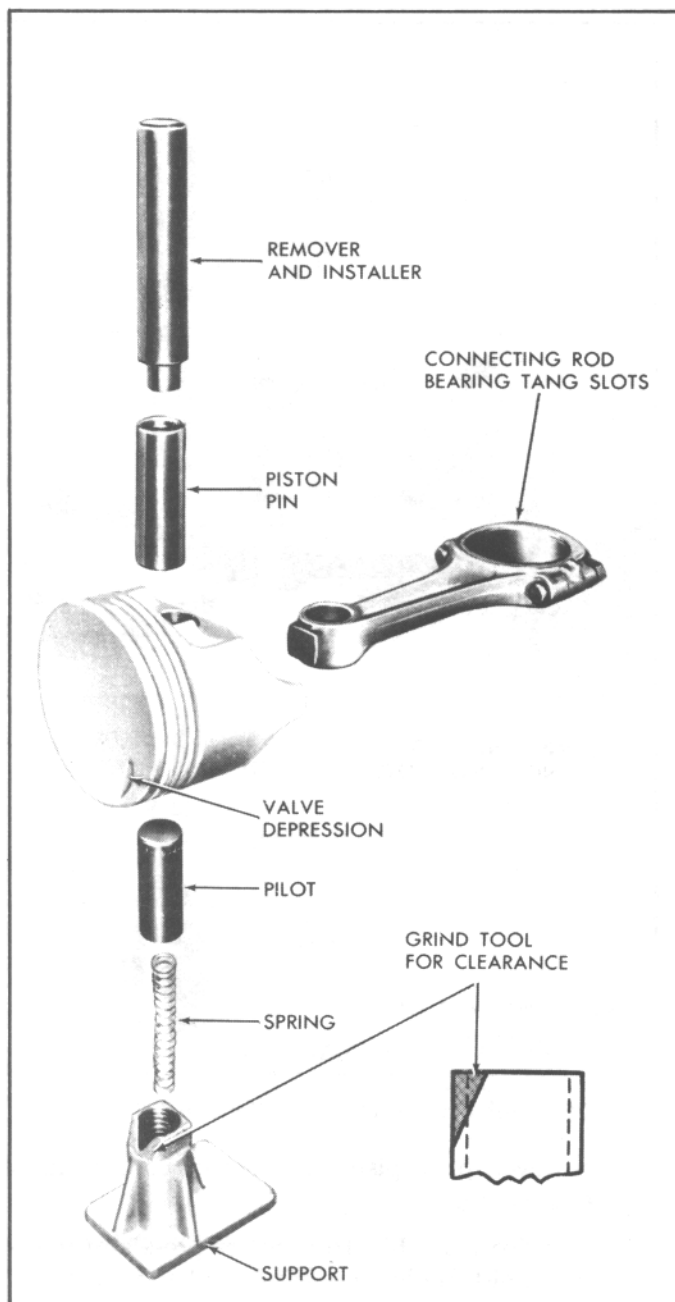

Fig. 76. Piston Pin & Tool Layout ("Mark IV V8")
2. Using tool J-9510 for In-Line and small V-8 (Fig. 75) or tool J-6994 for 454 CID V-8 (Fig. 76) place support with spring and pilot in place on an arbor press.